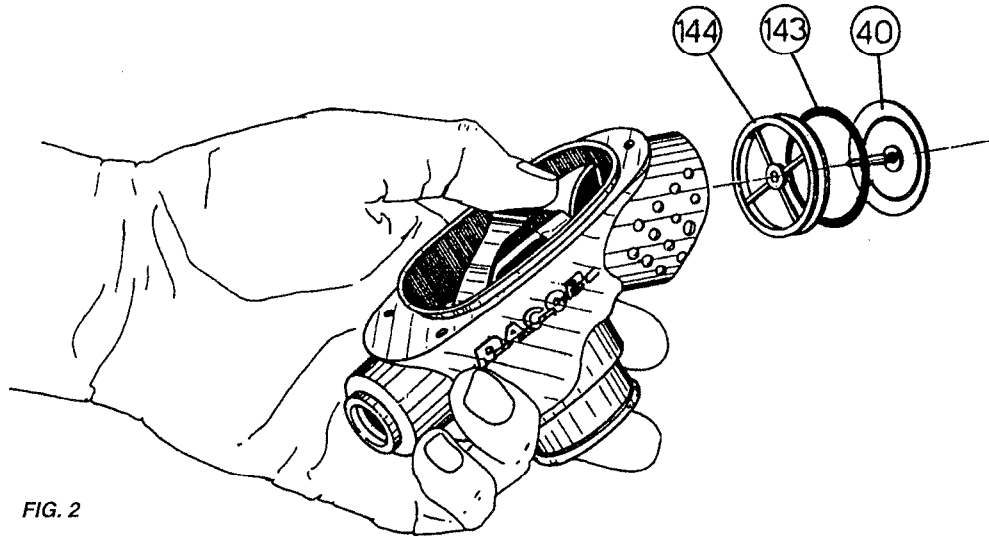

FIG. 2
13. Pushing from the inside of the second stage case (32), disassemble the exhaust valve support (144) (FIG.2).